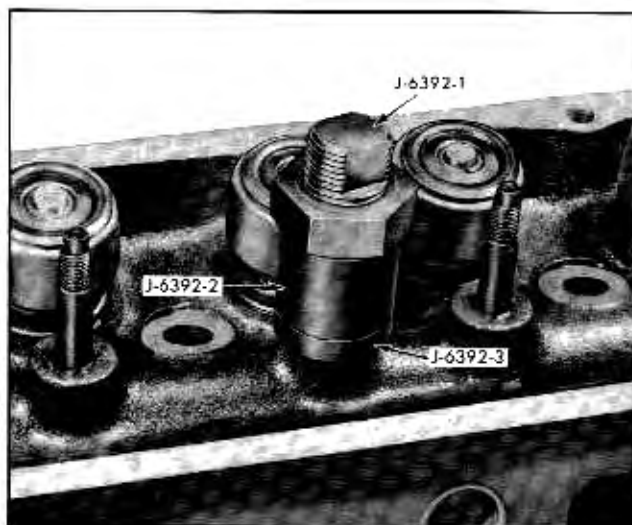

Fig. 6-19 Tool J-6392 Positioned to Remove Rocker Arm Stud
6. Thread $\frac{7}{8}$ " standard nut on stud remover and turn nut until rocker arm stud is out of cylinder head (Fig. 6-19).